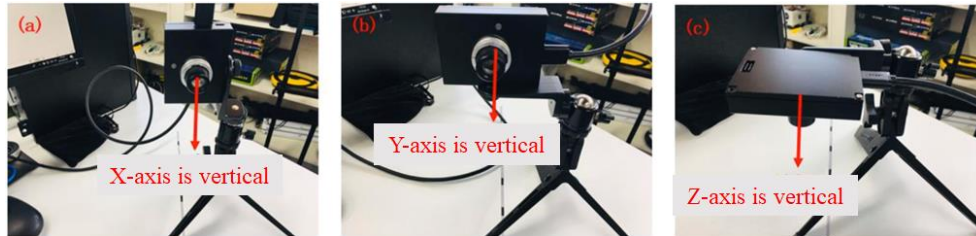

Fig 1
- a) Adjust the sensor to the position where X-axis is erect, as shown in Fig 1(a). After keeping stationary for about 5 minutes, input 2. “Keep stationary.” is printed in the console window. Keep stationary again until the final comparison results are given. Check the $\|Acc\|$ and compare it to G . The deviation should be smaller than $0.05(m/s^2)$.
- b) Adjust the sensor to the position where Y-axis is erect, as shown in Fig 1(b), then input 2. Check the deviation and compare to $0.05(m/s^2)$ again.
- c) Adjust the sensor to the position where Z-axis is erect, as shown in Fig 1(c), then input